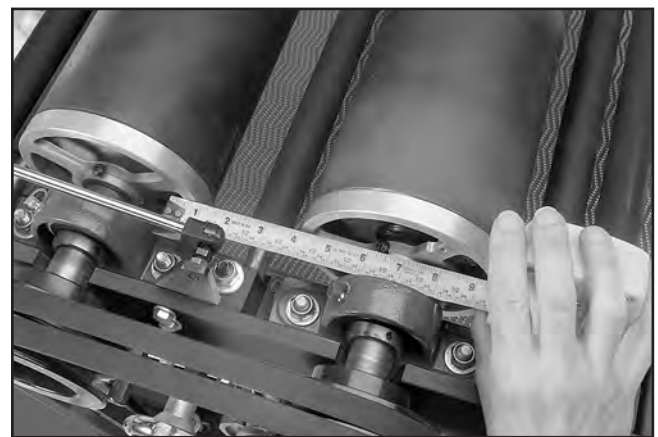

Figure 61. Measuring distance between rear and front drums.
7. Measure distance between rear and front drum, as shown in **Figure 61**, on both sides.